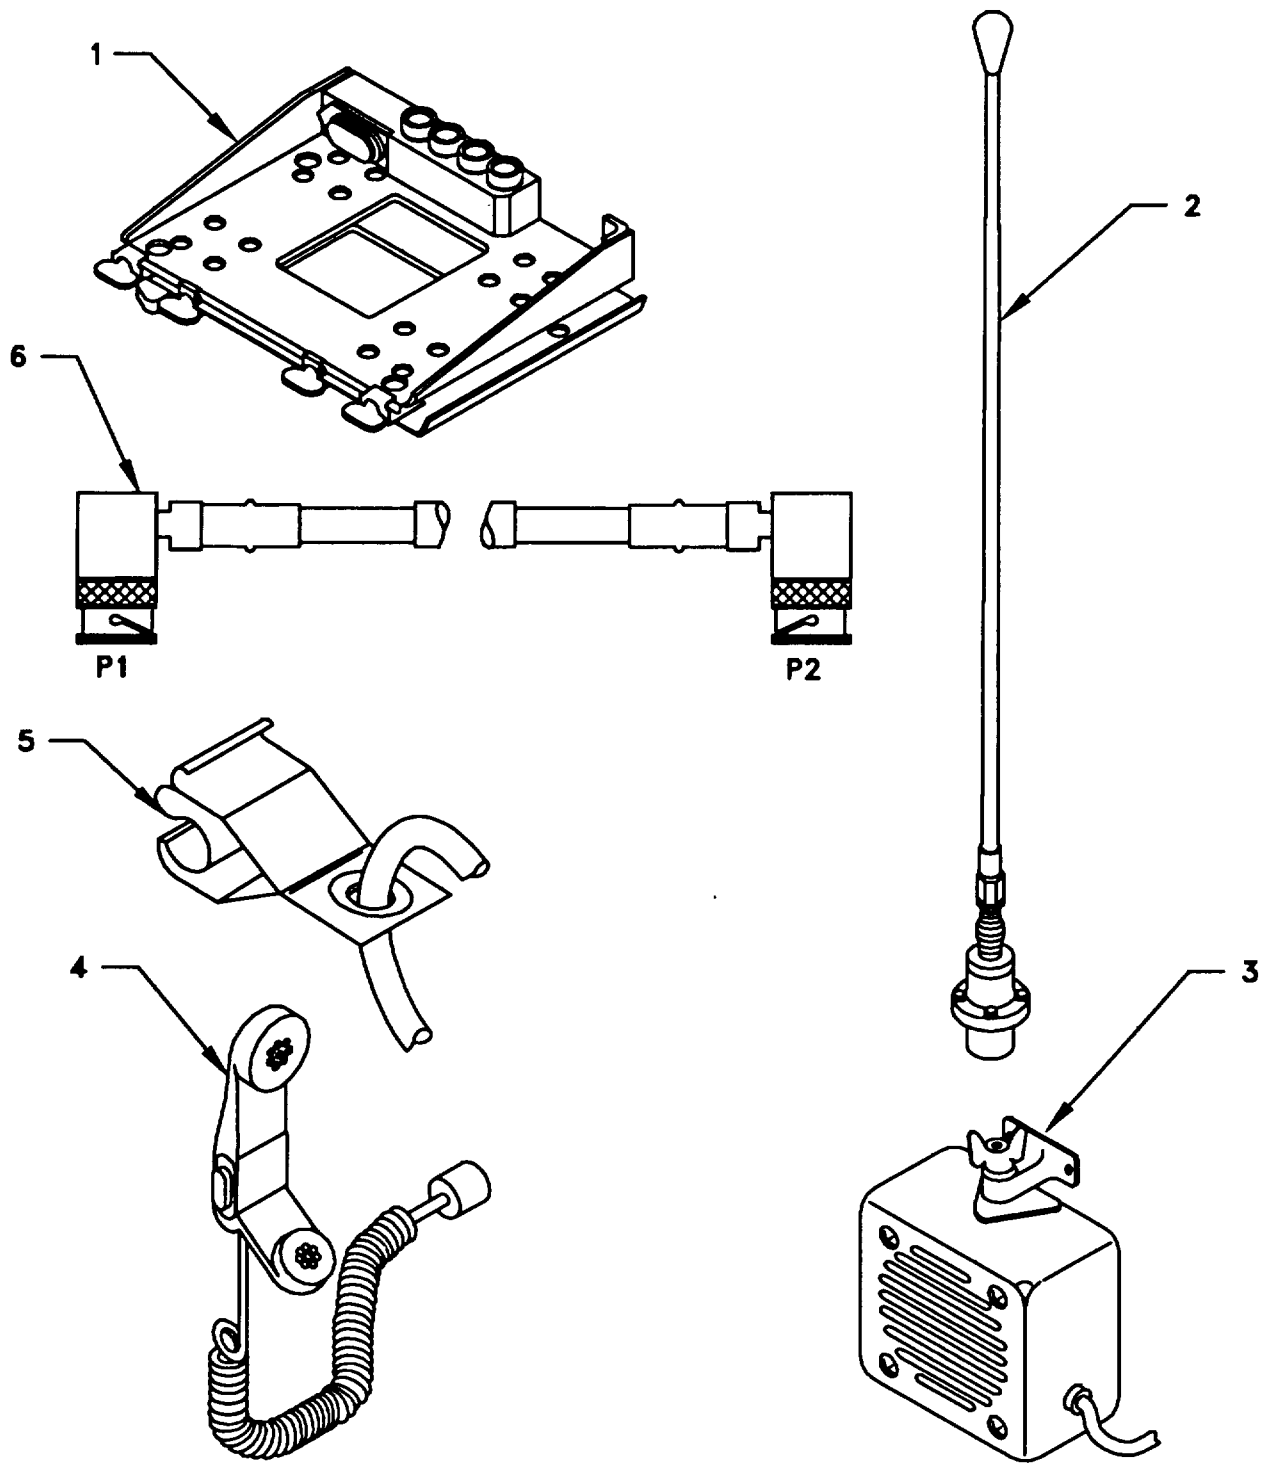

Figure 4-1. MK Illustrated Parts List
**4.3.1 Items Supplied In MK and/or Required for Installation.** Use Table 4-1 and Figure 4-1 to identify and inventory MK parts.